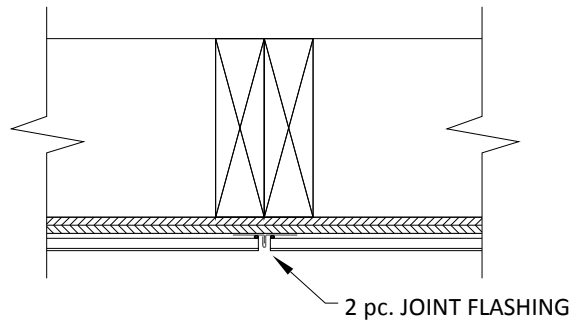

Fig. 5 - Vertical Panel Joint
1. Continue installation with the intermediate panels filling the space in-between corner panels. Special care should be taken with the planning and the installation of these panels. To provide the best overall look, measure the distance between corner panels and decide if the final panel install will provide the look required. Ensure that you have provided the correct spacing between panel edges. See fig. 5 – 5.2